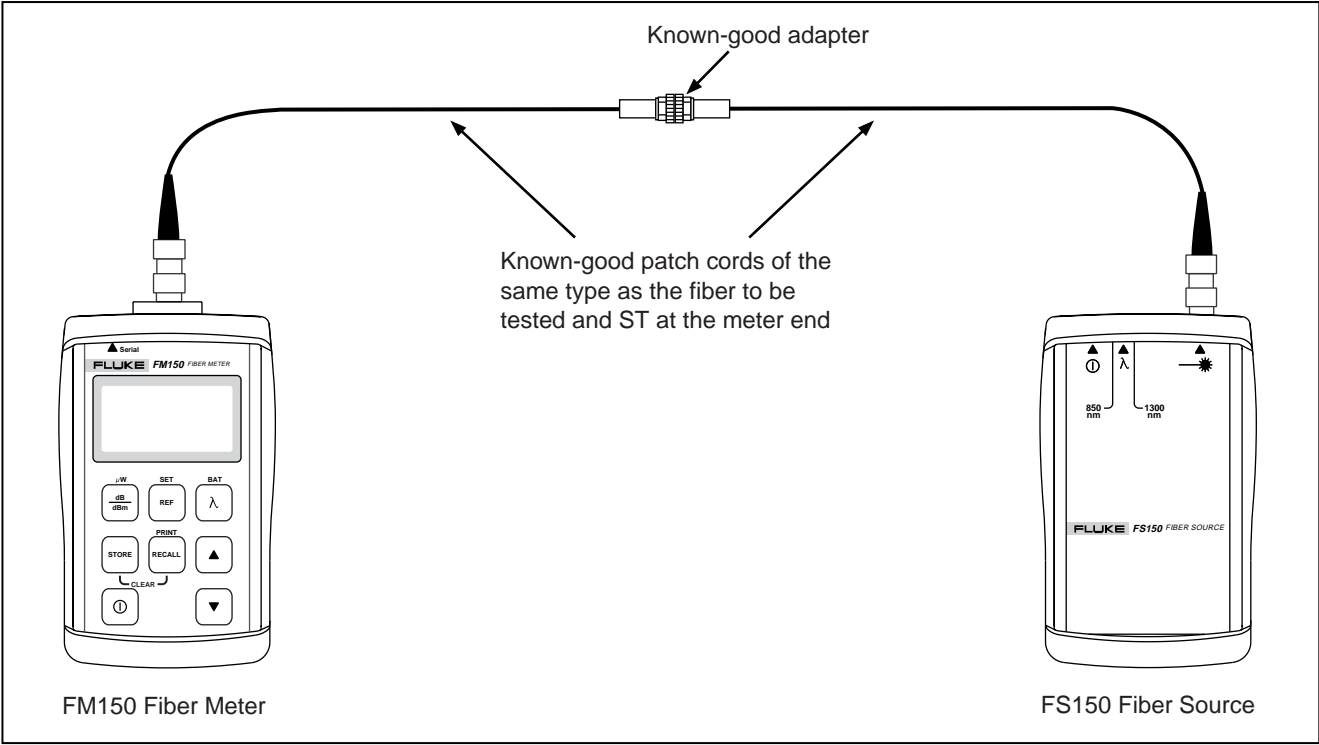

Figure 6. Setting a Reference
3. Make the connections shown in Figure 6. Turn on the meter. Press  to select the proper wavelength. Normally, the reading will be about -20 dBm. If the reading is too low, check the source connections and wavelength, or clean the fiber ends again, or select different patch cords, or use a different adapter.
Optical power loss is the light energy lost through the fiber, adapters, splices, and other components in a fiber link. The loss for a fiber under test is automatically calculated as the difference between the loss with the fiber inserted and the reference loss. (See Figures 6 and 7.)